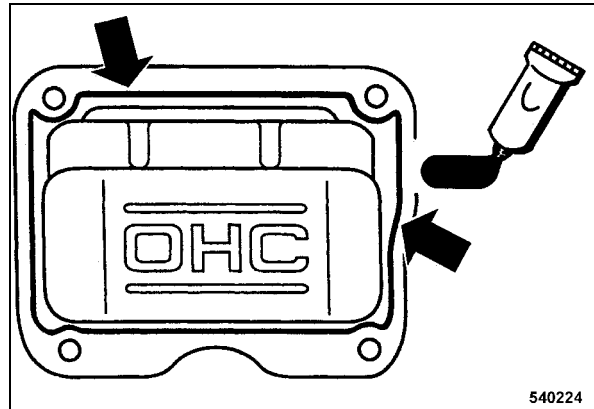

Fig. 50
- Apply a bead of liquid gasket (Three Bond 1207B or similar) with a diameter of approx. 1.5 to 2 mm to the inside of the cylinder head cover (Fig. 50).